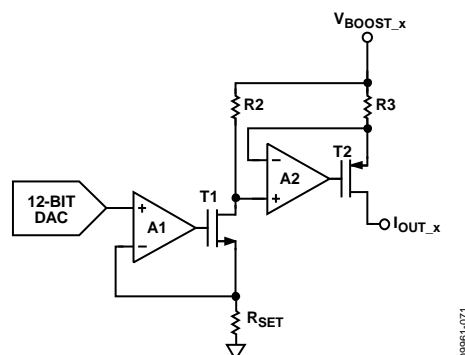

Figure 72. Voltage-to-Current Conversion Circuitry
- Converted to a current, which is then mirrored to the supply rail so that the application sees only a current source output (see Figure 72)